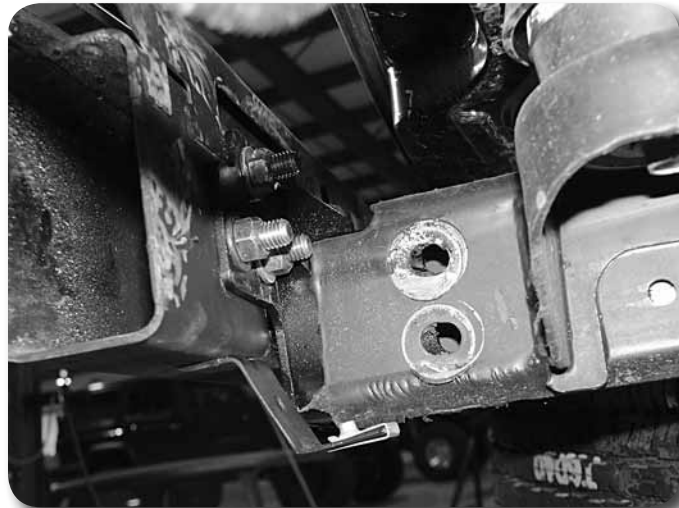

Figure 24
47. Install $\frac{1}{2}$ " x 1- $\frac{1}{4}$ " bolts. It will be easiest to install from inside the bumper out (as shown in figure). Leave hardware loose. Figure 24